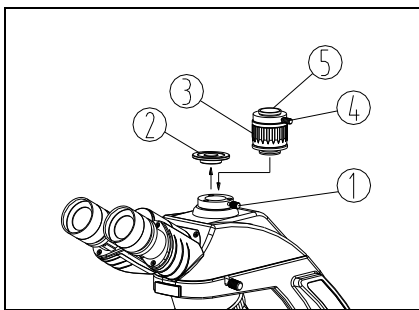

Fig. 23
1. Loosen the lock-screw ① on the trinocular head and get down the dust-cover ② of the trinocular (see Fig.23).
2. Get down the dust-cover caps of the TV adapter ③. Insert the ③ into the trinocular according to the direction of the figure. Screw on the lock-screw ① tightly.
3. Loosen the lock-screw ④. Get down the C mount ⑤ from ③. Screw onto CCD and then install the orifice to ③. Screw on the lock-screw ④ tightly.
4. Observe through binocular till image clear, then observe through CCD, if the image is unclear, rotate the adjustment tube ③ until it is clear.